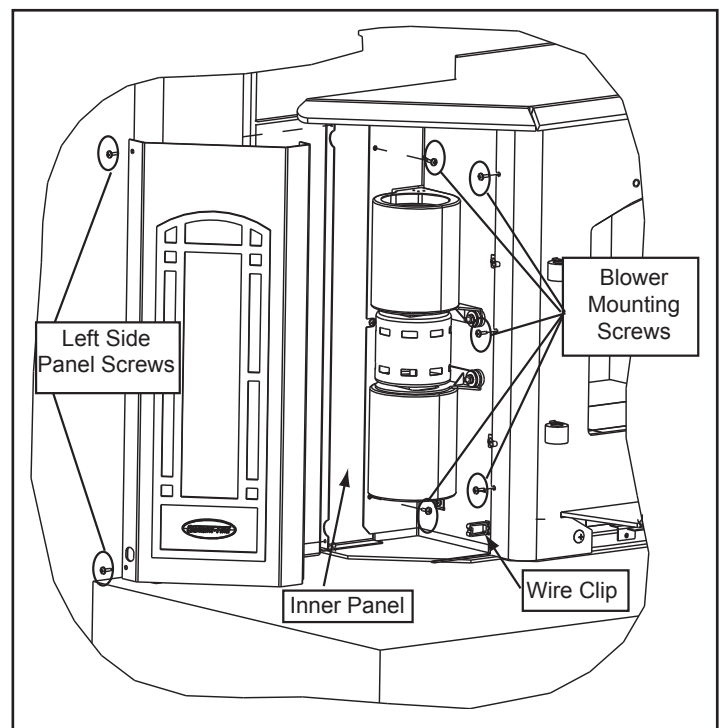

Figure 22.2
2. Slide blower mount with blower attached behind the face and secure with 5 screws provided, 3 on the right side and 2 on the left. **Figure 22.2**.